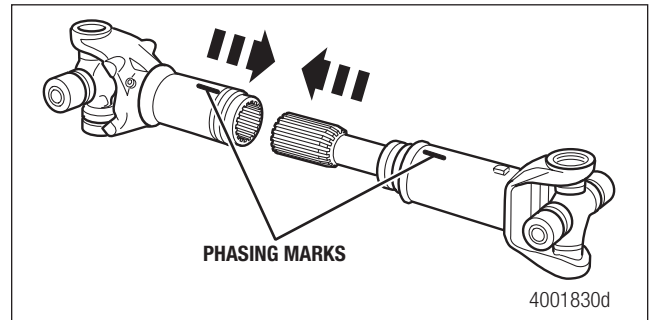

Figure 9.12
5. Align the slip yoke and spline shaft sections with the phasing marks you made on these sections during disassembly. Figure 9.12.
6. Install the spline shaft into the slip yoke until the splines fully engage. Figure 9.12.